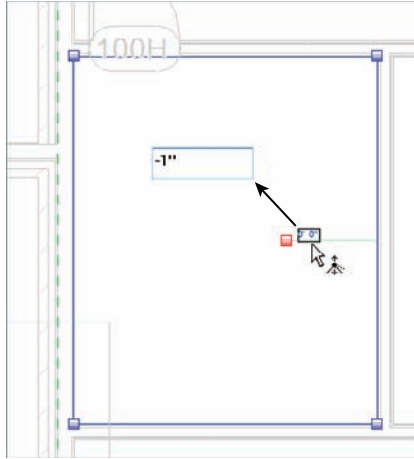

FIGURE 6.49 Dropping the elevation of the drain down 1" (25mm) from the surface of the floor
7. Press Esc once. This puts you in the Modify Sub Elements mode. You will know you are in this mode by the icon next to your pointer, as shown in Figure 6.49.